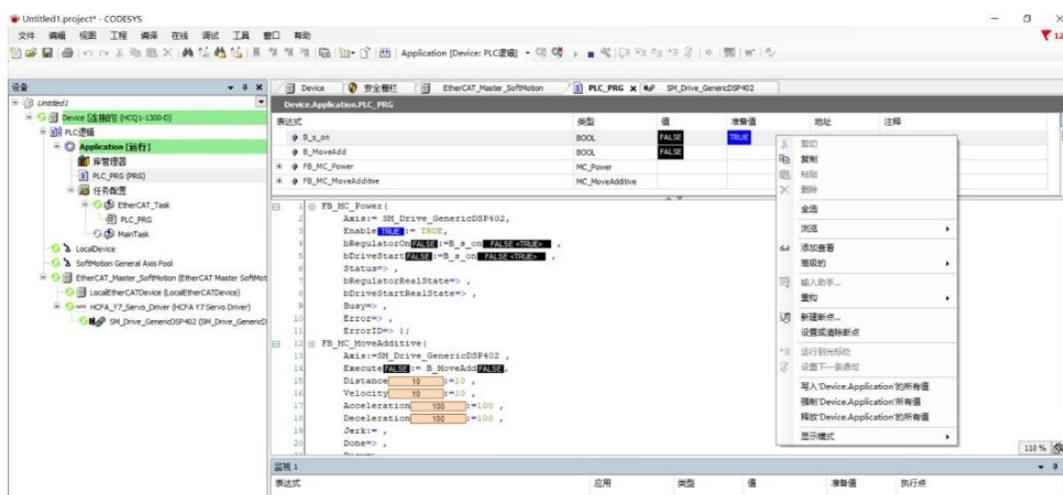

Figure 13-20 Servo motor enabled
2. In the case of safety, please left-click the position ①, and after TRUE appears, select [Write all values of 'Device.Application' ] as shown in Figure 13-20, and the servo smotor will be enabled.